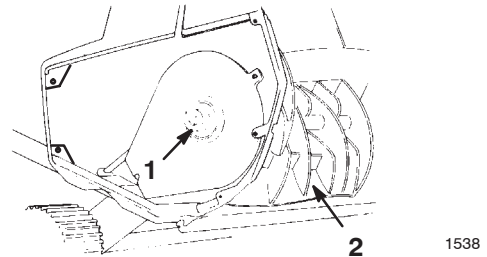

Figure 12
2. Use a 5/16-inch Allen wrench to turn the rotor shaft clockwise (left-hand thread) while holding the rotor (Fig. 12).